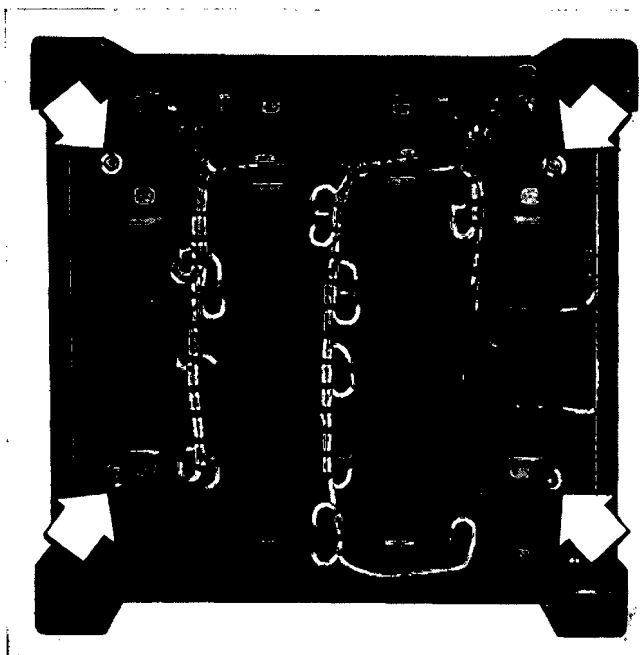

Figure 7-63. Dry Disc Rectifier in Rectifier Power Unit
(1) The Rectifier Power Unit has two assemblies that are not easily removed unless the correct procedure is followed. One of these assemblies is the dry disc rectifiers mounted on the rear of the unit as shown in Fig. 7-63. To remove any or all of the rectifiers it is necessary to completely remove the Rectifier Power Unit from the Rotation Control Unit case. The con-
necting cable must be removed from the side of the chassis and the small access plate in the front of the case on the cable side must be removed to permit sufficient clearance for the cable when the unit is pulled all the way out. After removing the Rectifier Power Unit, place it in some convenient position, disconnect the connecting leads behind the assembly, and remove the four assembly nuts shown in Fig. 7-63. Then pull the entire assembly straight out from the rear of the chassis. It is recommended that all four rectifiers be changed at the same time. However, it is permissible to change the two small rectifiers or the two large rectifiers. Never change a rectifier without also changing its mate. When it is necessary to disconnect leads from rectifiers, mark the leads carefully, identifying them so that they may be connected to the new rectifiers in the same way that they were originally connected. There is no occasion to disassemble a rectifier. If the assembly nuts that hold them together are loosened, the rectifiers may be irreparably damaged. After the assembly is removed, remove the top outside nuts on the rectifiers. These nuts are the ones visible in Fig. 7-63 at the top of the unit. Then remove the fillister head screws that hold the terminal strip to the metal side of the frame and remove the terminal strip. Next remove the bottom outside nuts from the rectifiers to be removed. This permits the defective rectifiers to be removed. The replacements are installed in the reverse order.